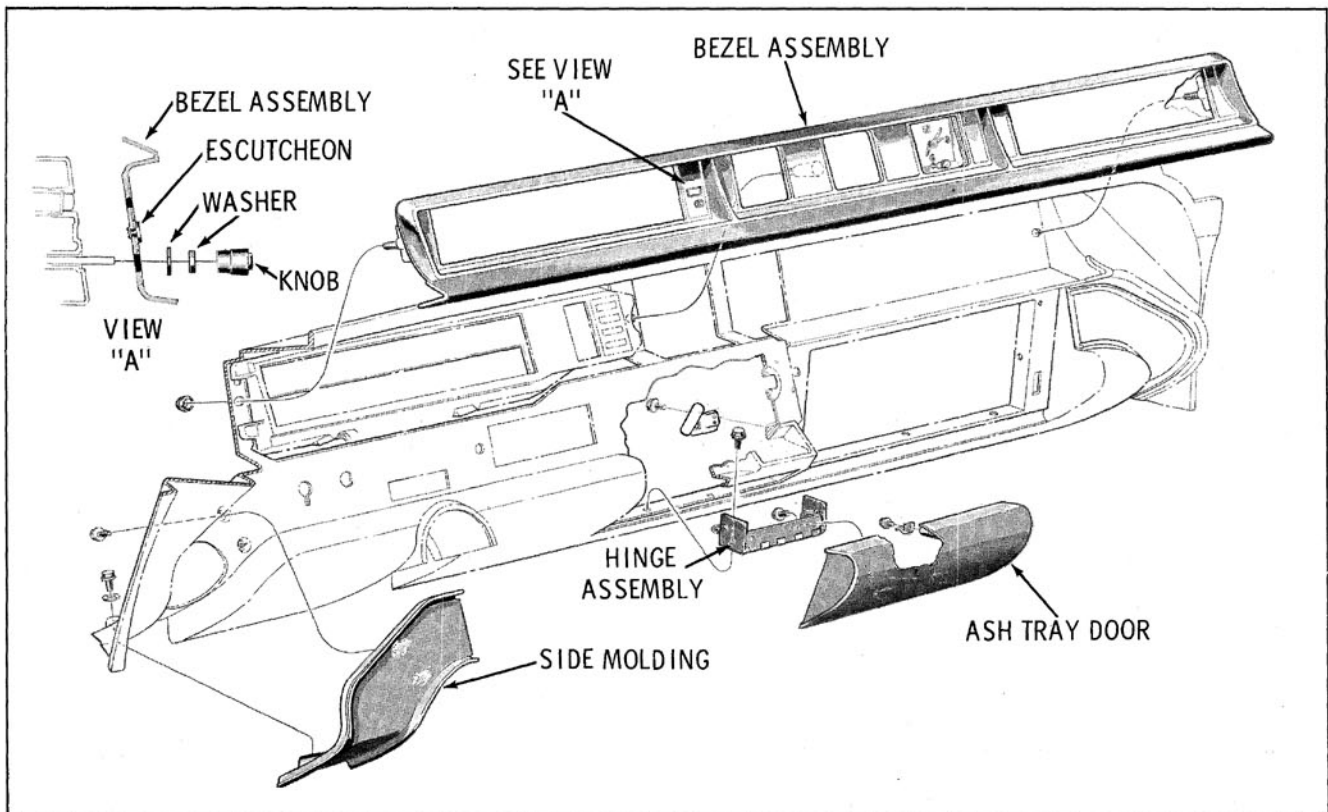

Fig. 12-2 Instrument Panel Components
All the instruments are electrically operated, except the speedometer and Hydra-Matic indicator which are mechanically operated. A speed warning device (Safety Sentinel) is offered as optional equipment on all models. A knob on the instrument cluster allows the driver to pre-set his desired speed. When this speed is reached, a light goes on and a buzzer sounds. (View A, Fig. 12-2)
3. Remove the instrument panel bezel by removing the three attaching nuts from beneath the instrument panel. (Fig. 12-2)